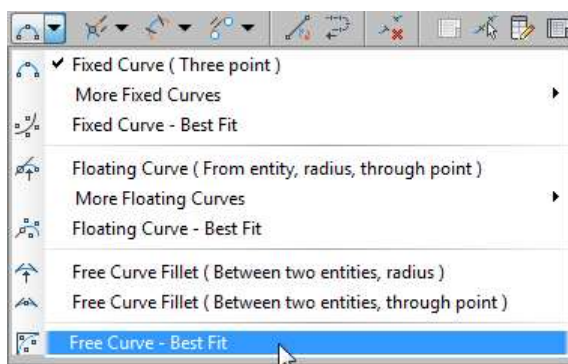

Figure 5-63 Choosing the **Free Curve - Best Fit** option from the flyout
2. Choose the **Free Curve - Best Fit** option from the flyout, as shown in Figure 5-63; you are prompted to select the first entity.
6. To check the criterion that has been violated, move the cursor over the violation symbol in the drawing; a tooltip stating the type of violation is displayed, as shown in Figure 5-63.